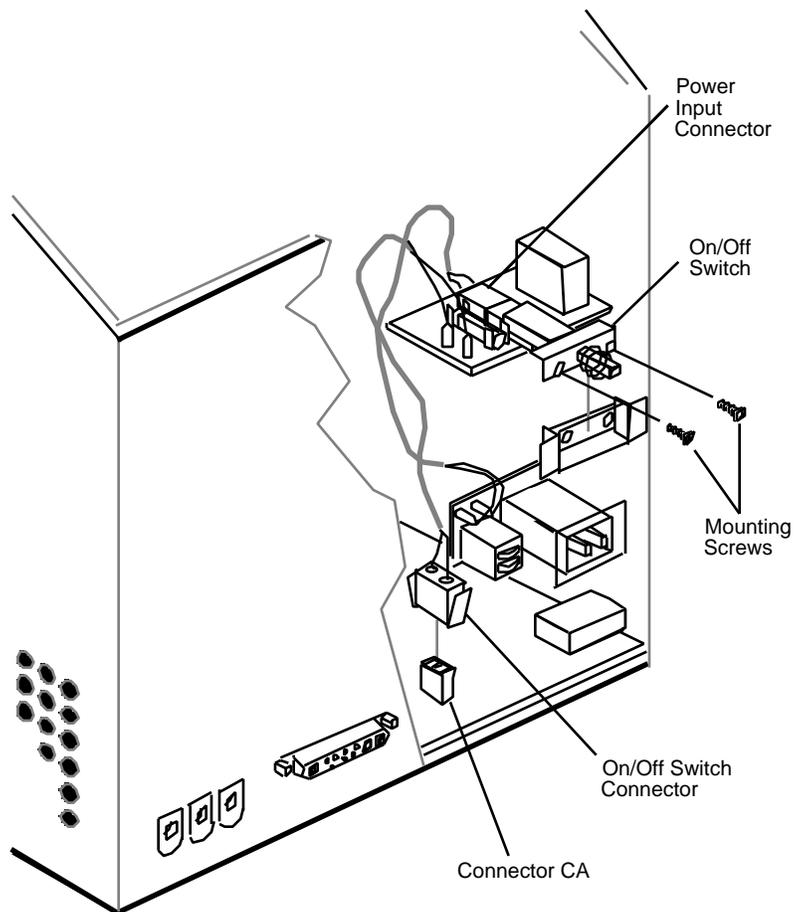

FIGURE 15
5. Disconnect the power input connector (Figure 15) from the connector on the on/off switch board.
6. Remove two mounting screws (Figure 15), and remove the on/off switch from inside the chassis.